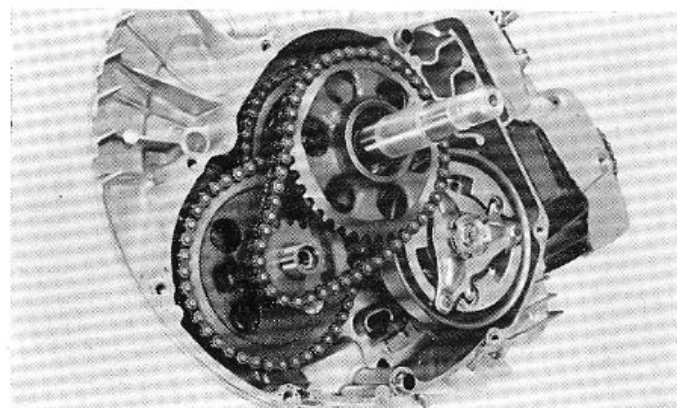

Fig. 2-41 Assembling the reduction sprockets
3. Loop the chain on the final driven sprocket and assemble. (Fig. 2-41)